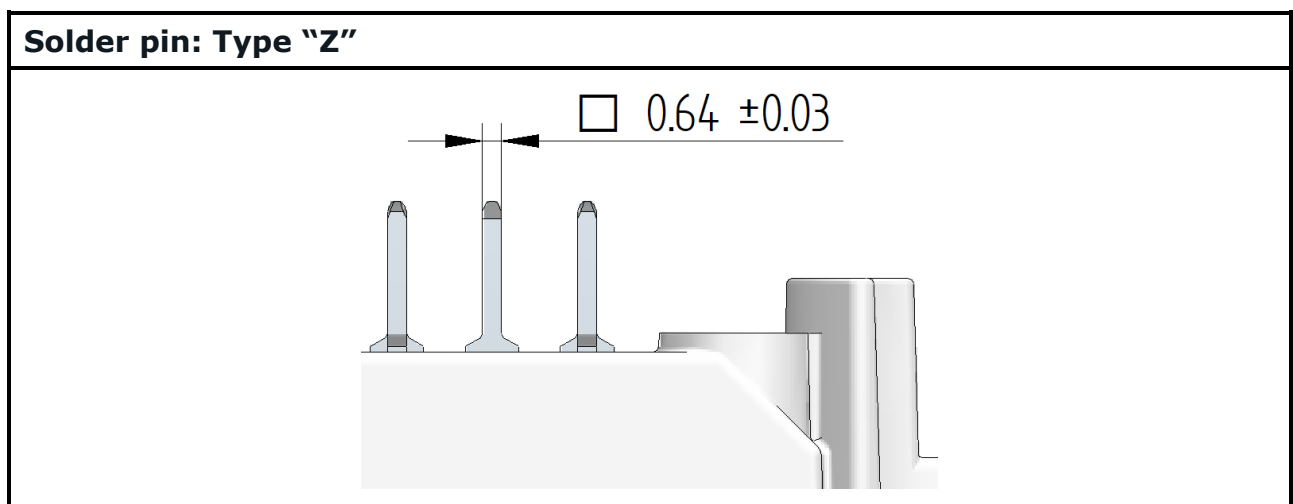

Figure 5: Solder pin diameter
- After screwing the module, all pins must be soldered into the PCB. The hole diameters on the PCB has to be designed according to the soldering pin dimension (Figure 5).